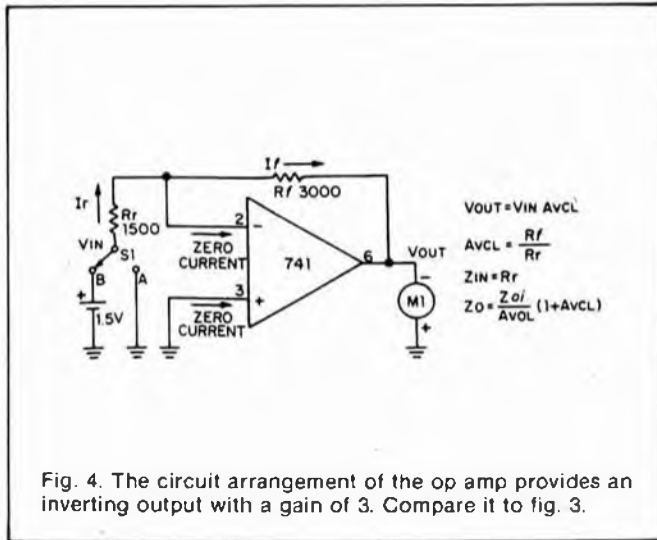

Fig. 4. The circuit arrangement of the op amp provides an inverting output with a gain of 3. Compare it to fig. 3.
Figure 4. Probably the most commonly needed power supply for small, single-board computers, this 5-volt DC, 5 ampere circuit is the smallest to be built by the typical microcomputer hobbyist. The transformer is rated at 6.3-VAC at 8-amperes.
**Common Power Supply.** The 5-volt, 5-ampere power supply (see Fig. 4) is probably the most commonly needed on small single-board computers.
The device labeled OV-1 in Fig. 4 is an over voltage protection module made by Lambda. These devices are designed to trip at 6.6-volts and will short the power supply line to ground if the voltage reaches this point.
● **Inverting Voltage Amplifier.** Alter the breadboard circuit to that of Fig. 4 including reversal of the meter. With  $S_1$  at position A, the meter indicates zero. The proof of this result is identical to that of the non-inverting voltage amplifier with switch at position A. With  $S_1$  at position B, the meter indicates 3 volts (actually, minus 3 volts since the meter is now reversed).
Figure 3 shows some typical envelopes. Figure 4 is the schematic of a simple function generator. Any of these voltages can control a VCO, a VCF, or a VCA, in any combination that you wish to try.